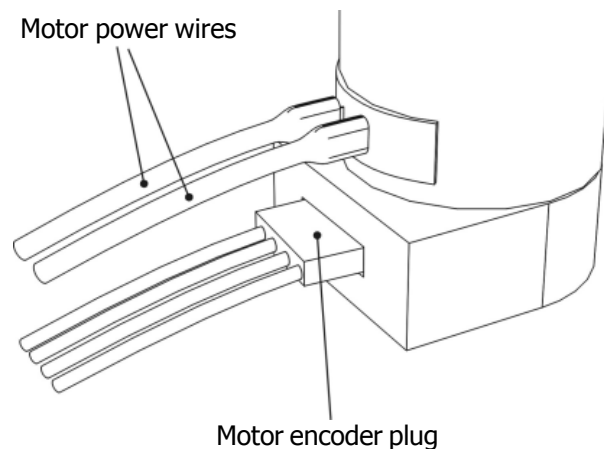

Fig. 5-7 Motor wires (*Power & Encoder*)
6. Disconnect the motor power cables (Red and black), and the encoder plug-in (Black connector at the bottom of the motor) from the base of the motor. See *Fig. 5-7*.